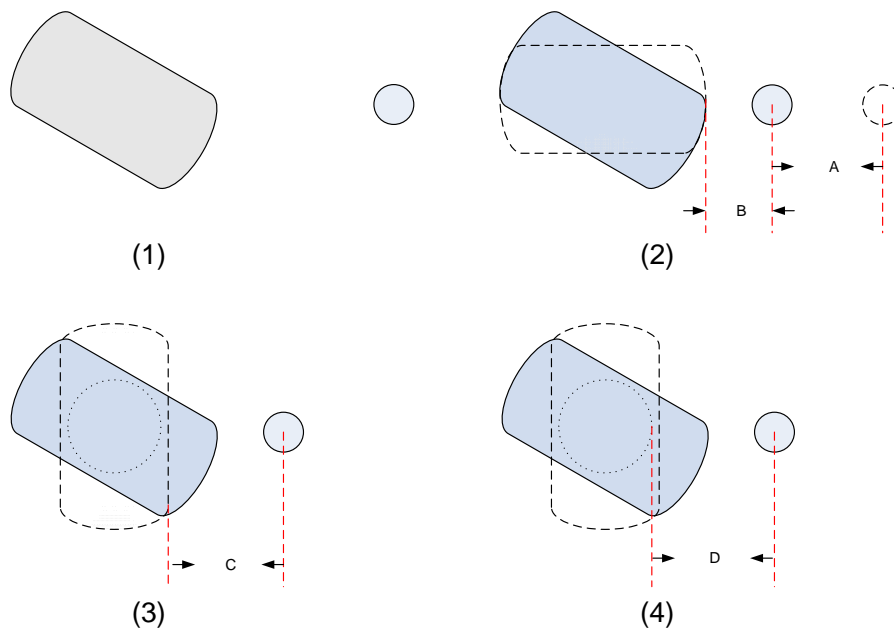

Figure 3.1.3 Motion and Traveling Route of the Slave Axis
See (1) in Figure 3.1.3. It shows the positions of the rectangle carrier and round compression axis after homing. Before creating an E-Cam curve, homing for each axis is required. That is, one point must be regarded as the reference origin for each axis.
See (2) in Figure 3.1.3. After homing, we can move the compression axis to the nearest position of rectangle carrier without obstructing its operating route. (Please be aware of the direction.) The maximum traveling distance has to be taken into consideration when setting distance B. Shorten distance B will shorten the time for creating the E-Cam curve.